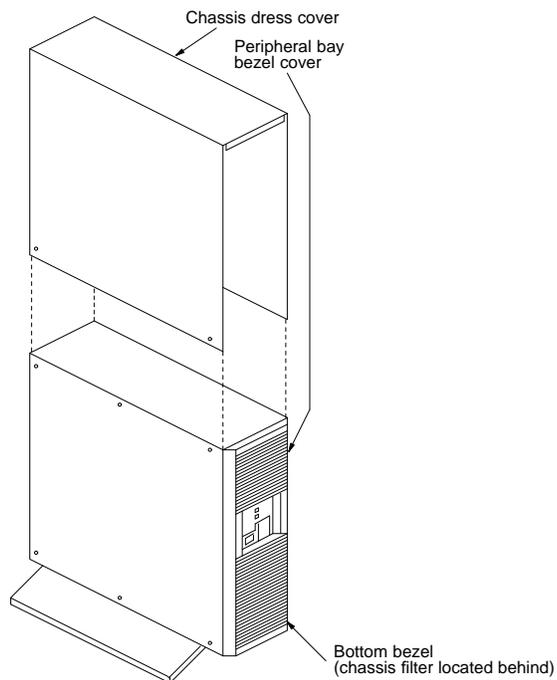

Figure 4-6. Removing the Dress Cover
2. Locate the two screws on both the bottom left and right corners of the dress cover (Figure 4-6).